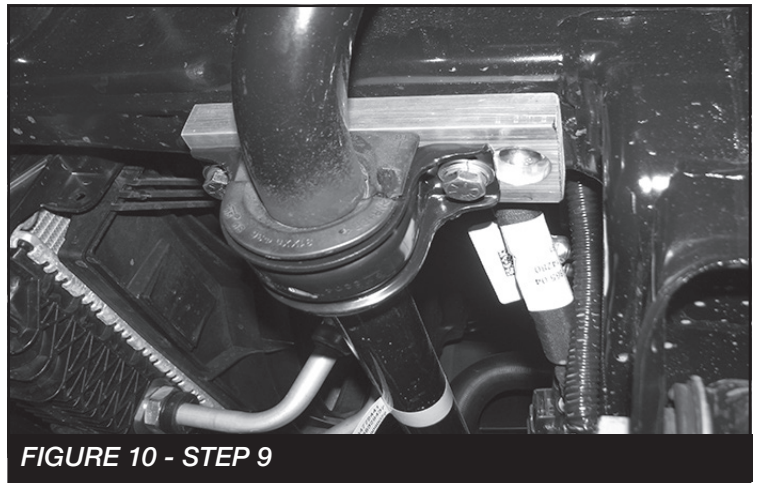

FIGURE 10 - STEP 9
9. Locate FT20698 (sway bar relocater) and install using the factory hardware. Torque to 52 ft-lbs. **SEE FIGURE 10**